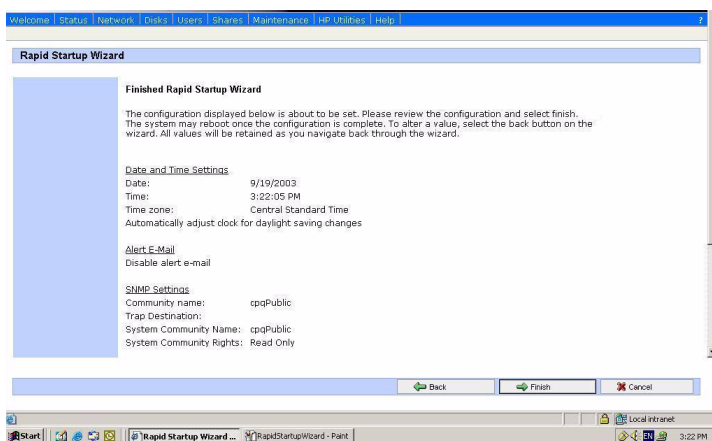

Figure 2 Rapid Startup configuration review screen
8. Verify that your information is correct when the configuration review screen is displayed as shown in Figure 2.